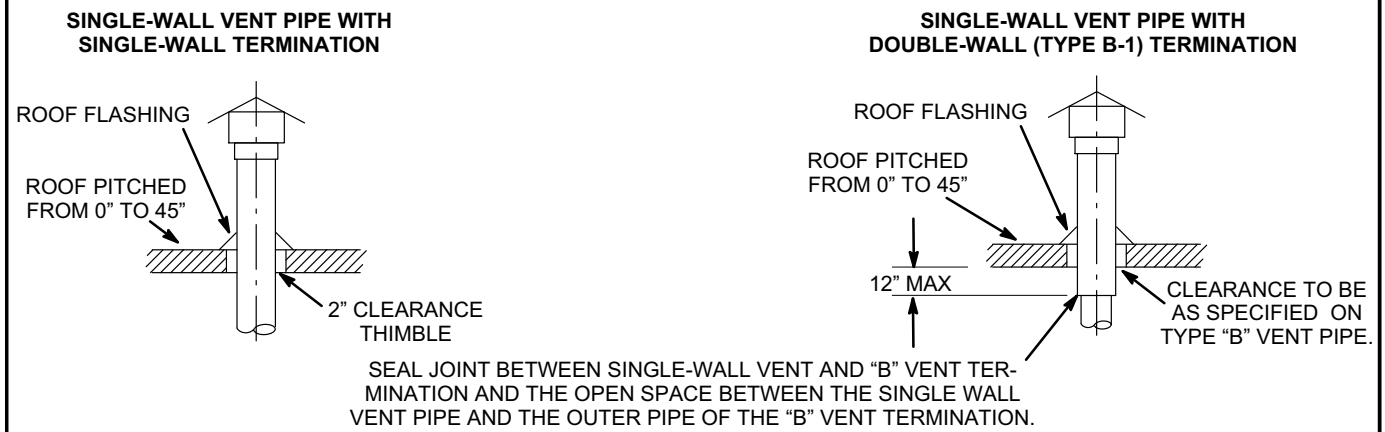

FIGURE 2
- 1 - These unit heaters are to be used with NFPA- or ANSI-approved chimneys or U.L.-listed type B-1 gas vents, or listed chimney lining systems for gas venting where applicable, as well as the modifications and limitations listed in figure 2. Seal single-wall vent material according to **General Recommendations and Requirements** section.